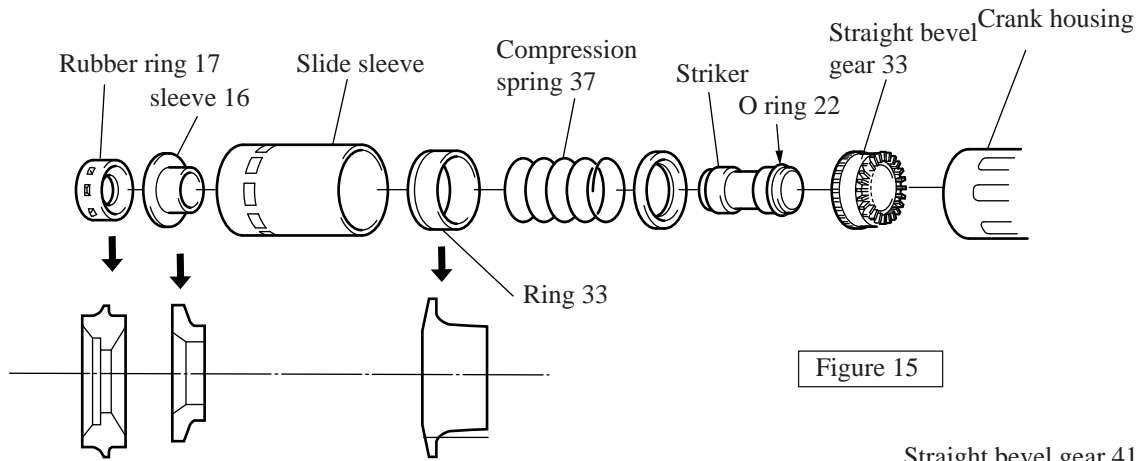

Figure 15
- a. Set the parts described below into the crank housing. (See the figure 15.)